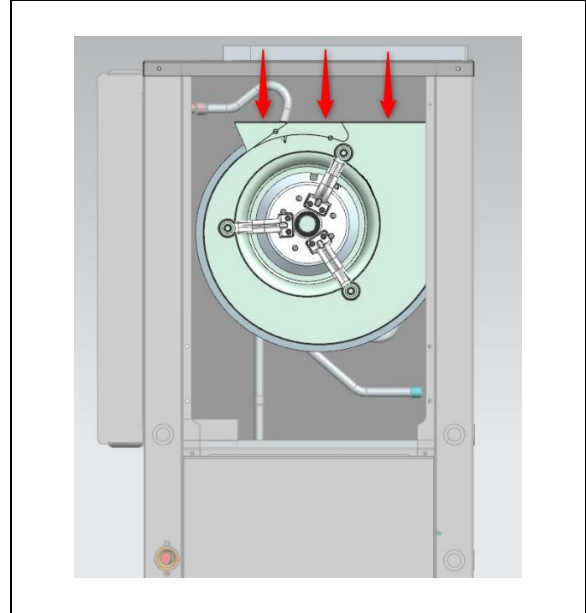

Fig. 5 Direction for Blower Removal
- 6) Lower the blower (vertical units) or pull blower away from panel (Horizontal units). Be sure to avoid damage to the evaporator. (See Fig. 5)